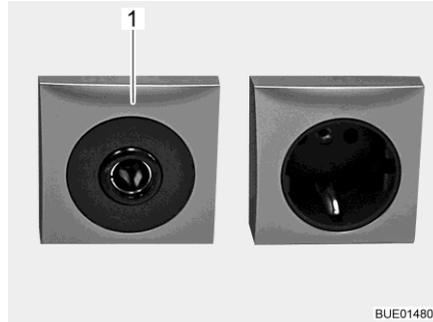

Fig. 177 12 V/10 A socket
- ▷ Only connect devices with a maximum of 10 A to the sockets (Fig. 177,1) of the 12 V power supply.